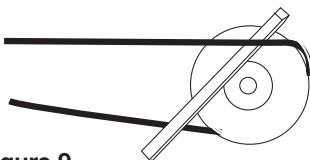

Figure 9
- Always loosen tension enough to install belts without stretching. Do not force belt(s) see Figure 9. Forcing the belts will break the cords and cause belt failure.